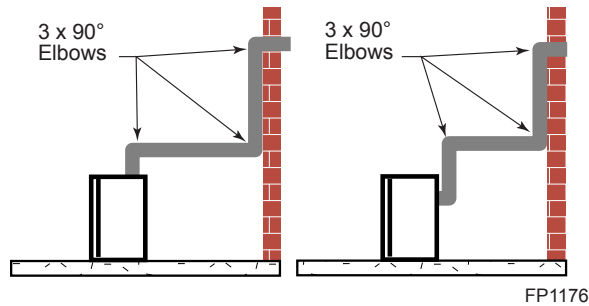
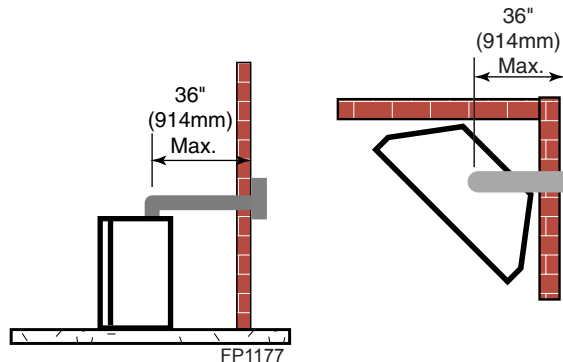

Figure 21 -
Figure 22 -
- The maximum number of 90° elbows per side wall installation is three (3). *Figure 21*
- If a 90° elbow is fitted directly on top of the fireplace flange the maximum horizontal vent run before the termination or a vertical rise is 36" (914 mm). *Figure 22*
- If a 90° elbow is used in the horizontal vent run (level height maintained) the horizontal vent length is reduced by 36" (914 mm). *Figures 22 & 23*. This does not apply if the 90° elbows are used to increase or redirect a vertical rise. *Figure 21*